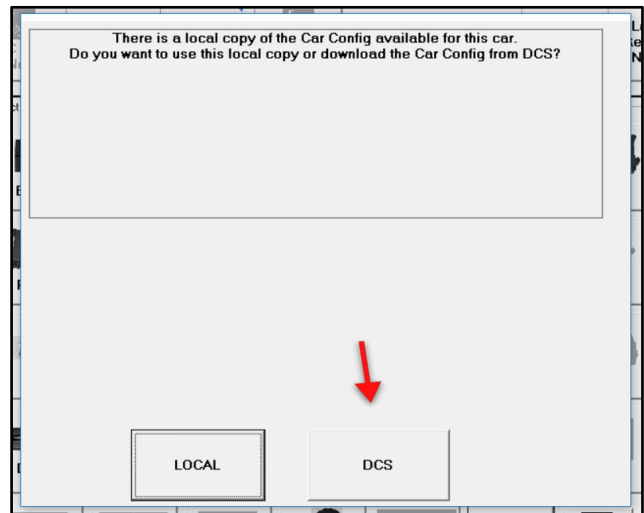

Figure 2
- 6. Click "DCS" to download the Car Config from DCS (refer to Figure 2).